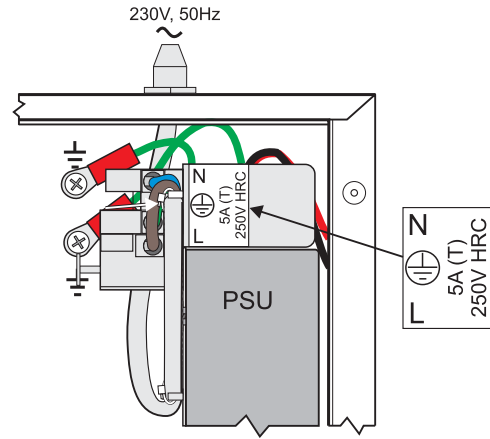

Figure 6 - Mains Input Arrangement - All Panels
- Connect the neutral (Blue) wire to the top terminal and connect the Phase or Live (Brown) wire to the bottom terminal. The mains terminal block contains an integral fuse to provide the required over-current protection. Rating of the fuse is quoted on the label (located on the front of the PSU-mounting metal bracket - see **Figure 6**) and in **Appendix 1 Specifications** of this document – only replace with the same type or direct equivalent.